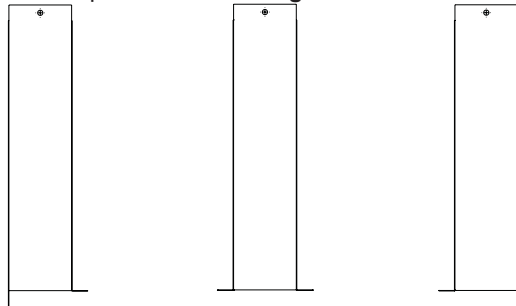

Figure 9
3. The brackets have a perforation located on each end. Bend them at the perforation. **See Figure 9.**